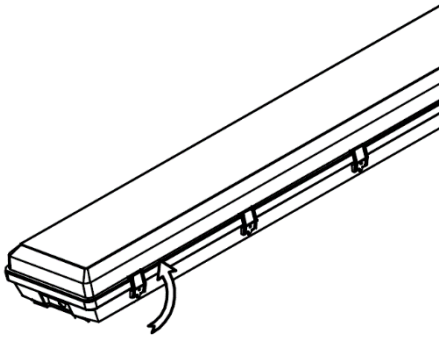

Fig. 3
3. Release the LED chip board inside the fixture by pinching the metal clips together on the middle of the board. (Fig. 3)